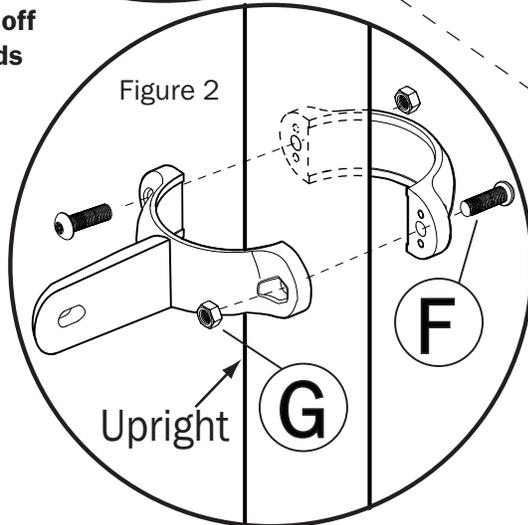

Figure 2
2. From back RIGHT side of Slide Hood(A), place flat side of Panel Clamp(B) against Slide Hood(A). Insert Bolt(G) into slot of Panel Clamp(B), through hole in Slide Hood(A) and secure with Flat Washer(E) and Lock Nut (F). See Figure 2.
- Close Panel Clamp(B) around upright with arm pointing inward and flat side of arm facing toward Panel. Insert (2) Bolts(F) into Panel Clamp(B) and lightly tighten with Lock Nuts(G). See Figure 2.
5. Insert Bolt(F) through slot in Entry Archway(A), through slot in Deck and secure with Flat Washer(G) and Lock Nut (H). Repeat for other Side. See *Figure 2*.
1. Place Extension Tube(B) onto Footer Plate(C) and align holes. Insert Bolt(D) into larger hole of Extension Tube(B), through holes in Footer Plate(C) and secure with Lock Nut(E). See *Figure 2*.
2. Insert Extension Tube(B) into shaft of HDPE Climber(A).